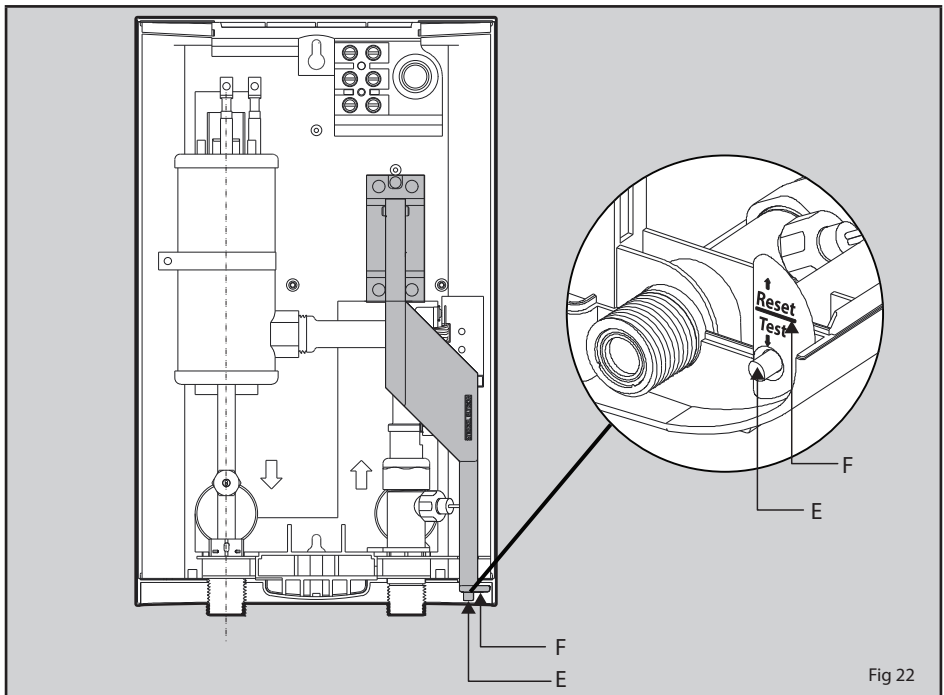

Fig 22
- Push the ELCB reset button ((F fig 22) to prepare the unit for normal operation.